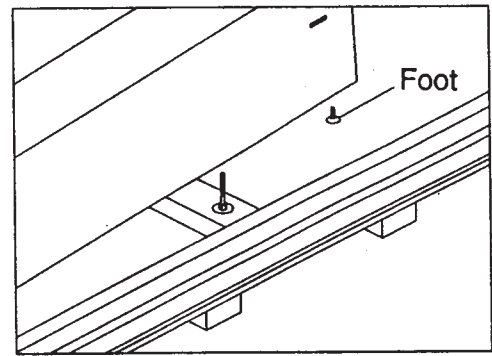

Fig. 1
3. Remove (4) carriage bolts: (2) on infeed end of burster and (2) outfeed end. NOTE: Leave carriage bolts in place on center burster support.
4. Remove (4) foam blocks.
6. Attach burster feet to burster. (Fig. 1)